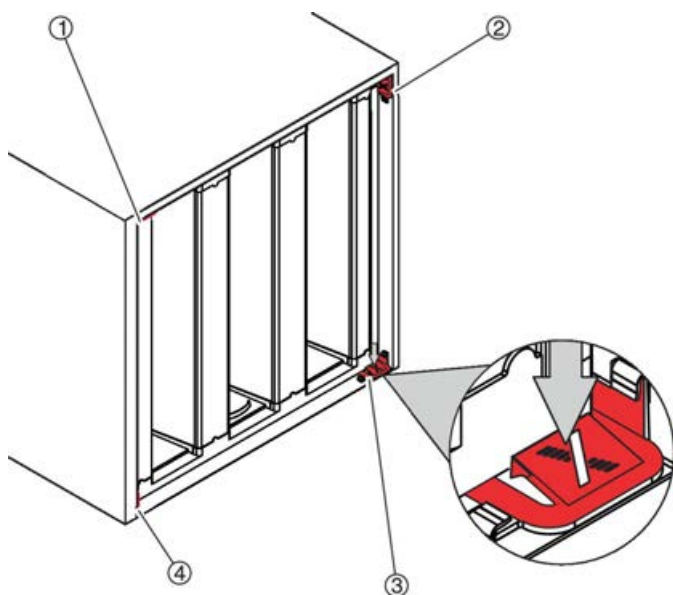

Fig. 19: Loosening the quick release fasteners
3. ▶ Press down the quick release fasteners (Fig. 19 /1 to 4).